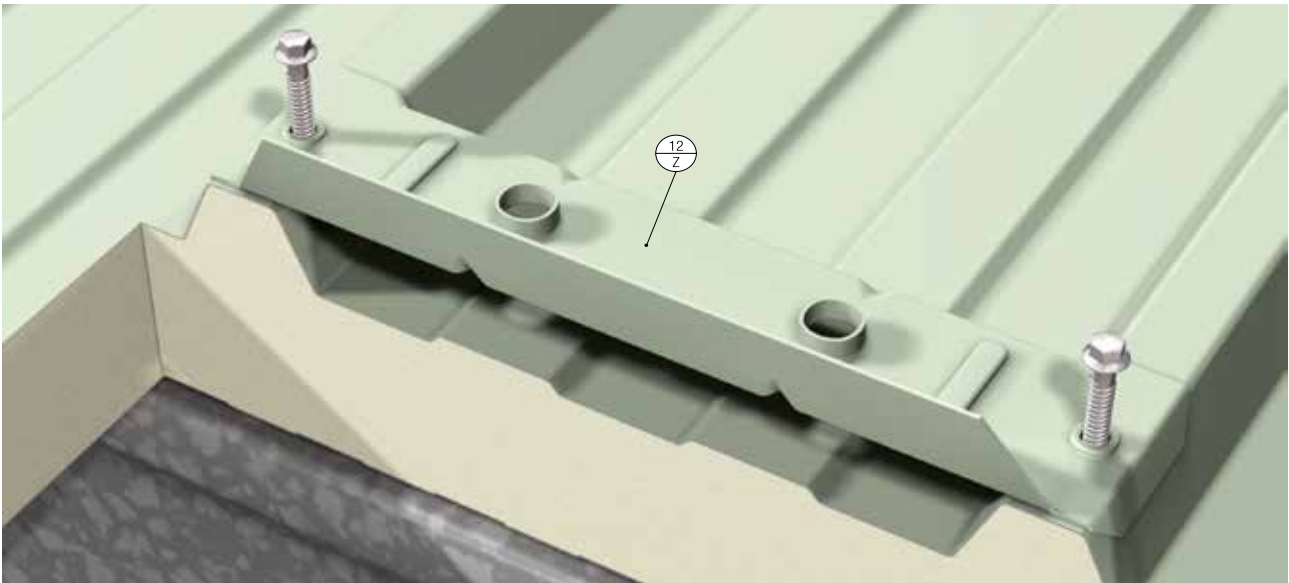

Fig. 72.: Placement of a snowguard on an RW panel
Snow guards (SG) are fastened through roof panels to purlins (see Fig. 72). Their spacing, count and deployment will be determined by a draughtsman on the basis of manufacturer's calculated recommendation. For designing SGs contact Kingspan's Technical Department.